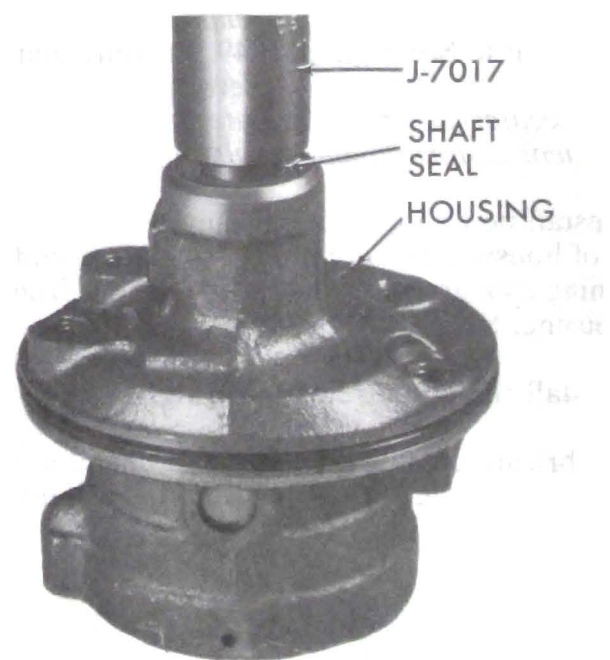

Figure 3F-48 Installing Shaft Seal
2. If shaft seal was removed, use installer J-7017 to drive new seal into housing with spring side of seal toward housing. See Figure 3F-48. Just bottom seal in housing.